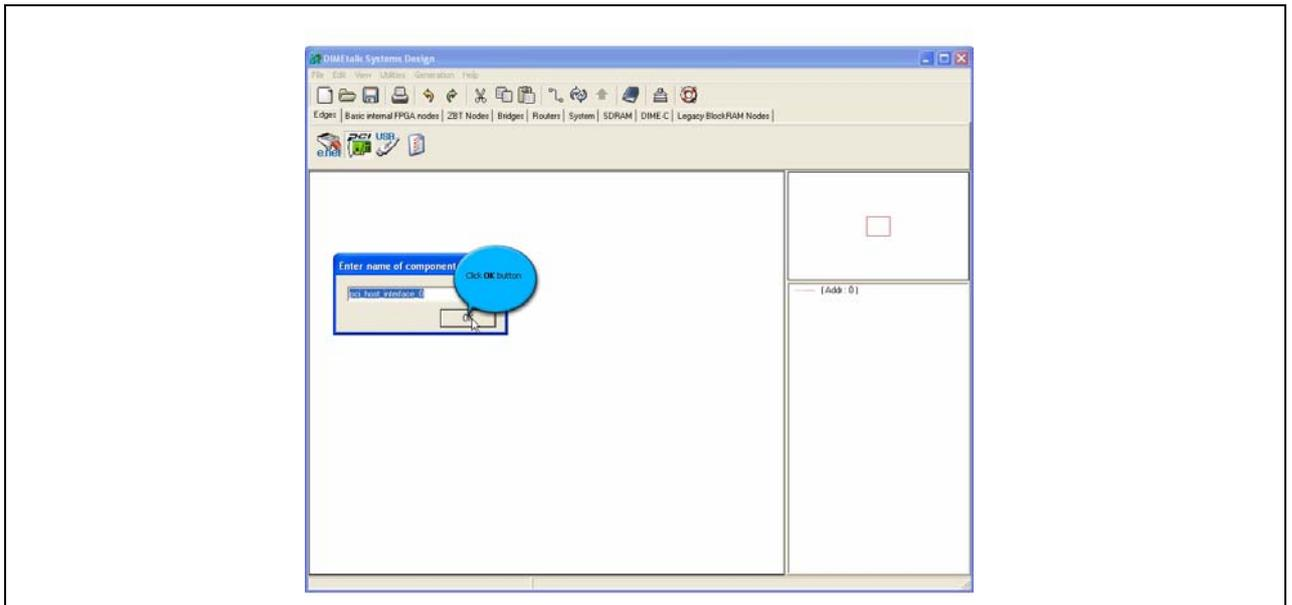

Figure 6: PCI Edge
- I. In the task bar select '**Start > Programs > Nallatech > DIMetalk Design Tools**' and '**DIMetalk System Design**' which brings up the DIMetalk System Design tool. The first step is to choose a component. This enables a user to connect a network to the available host. In this case it is assumed that the motherboard is connected to a PCI bus. Therefore select the PCI component in the 'Edges' tab. Once the button is depressed, click in the window area below to insert this component. When a component is placed down the user is prompted to enter a name for it. Enter a name and click '**OK**' as shown in **Figure 6**.